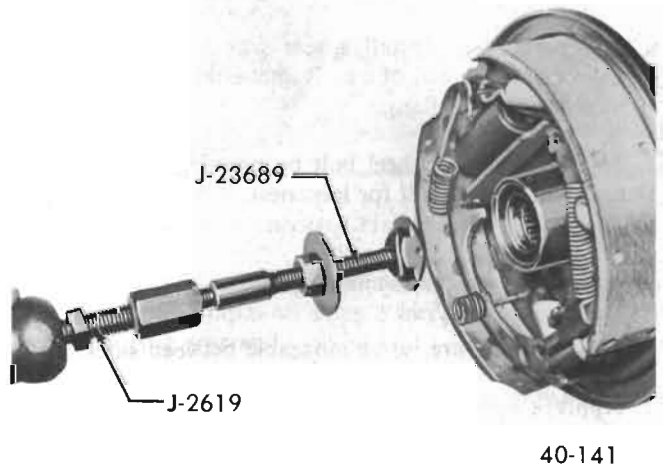

Figure 40-116 Axle Shaft Bearing and Seal Remover
1. Position axle shaft bearing and seal, remove J-23689, and remove the bearing and seal. See Figures 40-116 and 40-117.